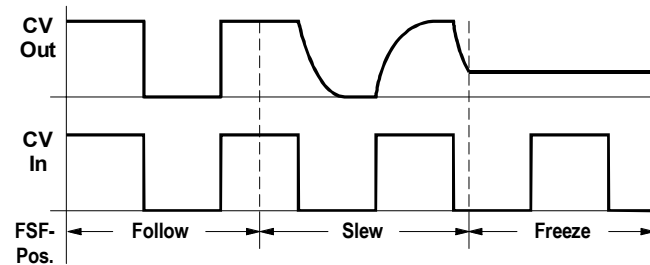

Fig. 1: The three slew limiter functions (Attenuator = 10, Offset = 0)
③ Switch
Switch ③ lets you **select the mode** in which the slew limiter works (see Fig. 1):